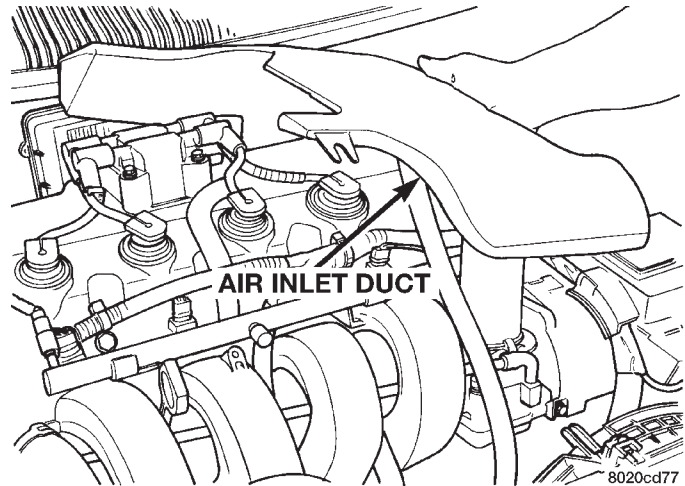

Fig. 17 Inlet Duct Removal
- (1) Remove air cleaner inlet duct (Fig. 17)